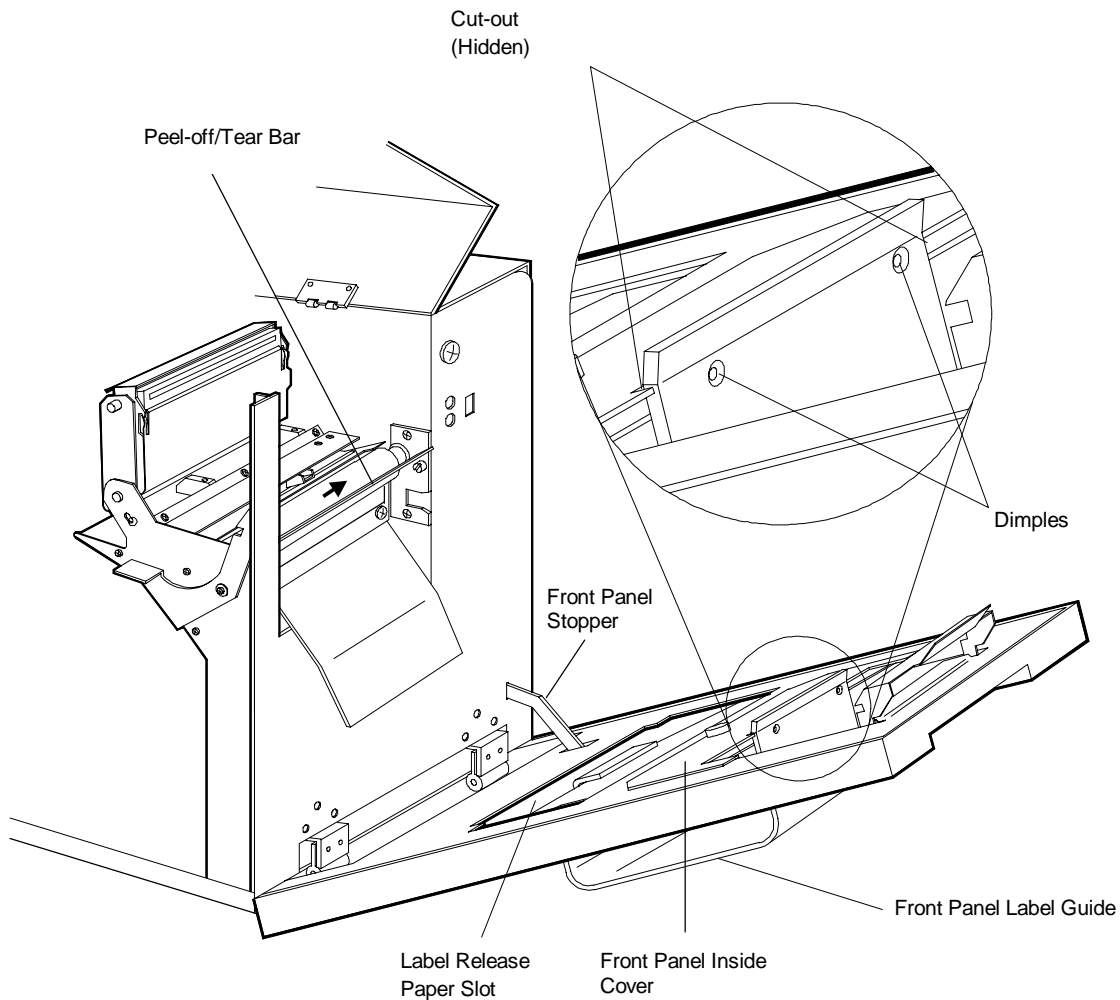

Figure 4-15 Front Panel Label Guide and Inside Cover
2. Remove the peel-off/tear bar by sliding it out of the notches (see Figure 4-15).
4. Insert the front panel label guide supplied with the internal rewinder option kit so that the dimples on the guide's top lip lock in place in the label exit slot on the front panel (see Figure 4-15). Be sure the bottom lip on the label guide is positioned in the label release paper slot as shown in Figure 4-15.